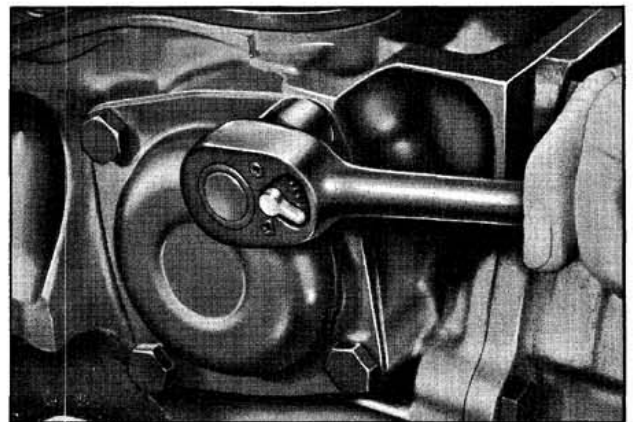

Fig. 6-31 Removing Governor Cover
1. Remove attaching bolts, governor cover and gasket. (Fig. 6-31)